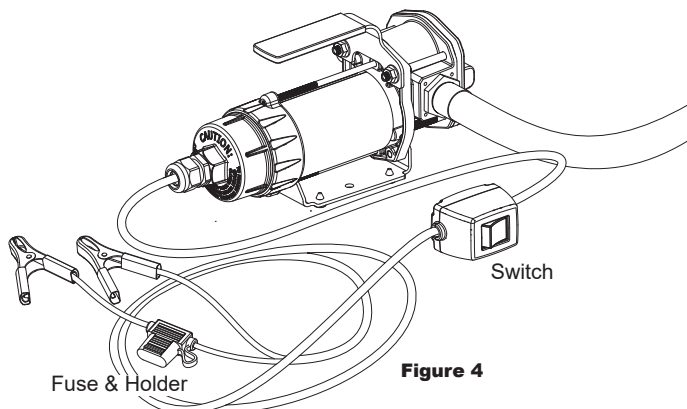

Figure 4
3. Turn on the pump with the inline switch (see Figure 4).